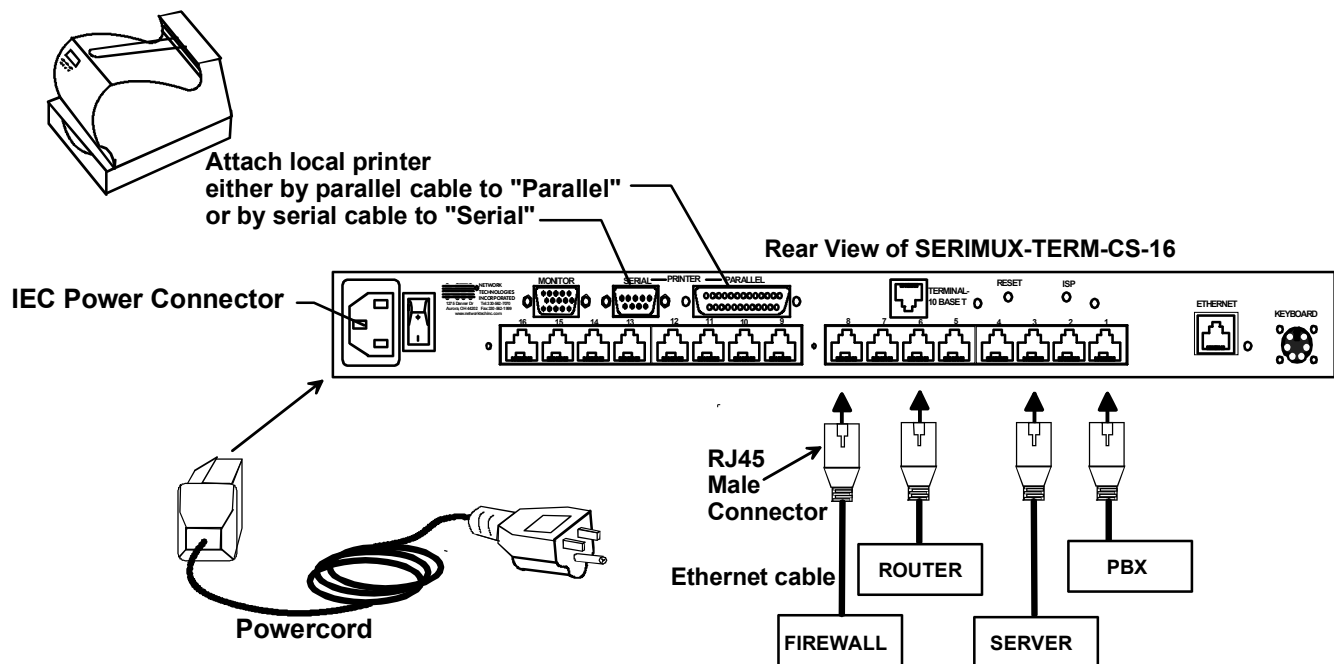

Figure 3- Connect serial devices, printer, and power cord
2. If connecting a printer, connect either a serial printer cable to the remaining male DB9 connector or a parallel printer cable to the female DB25 connector (see Figure 3).